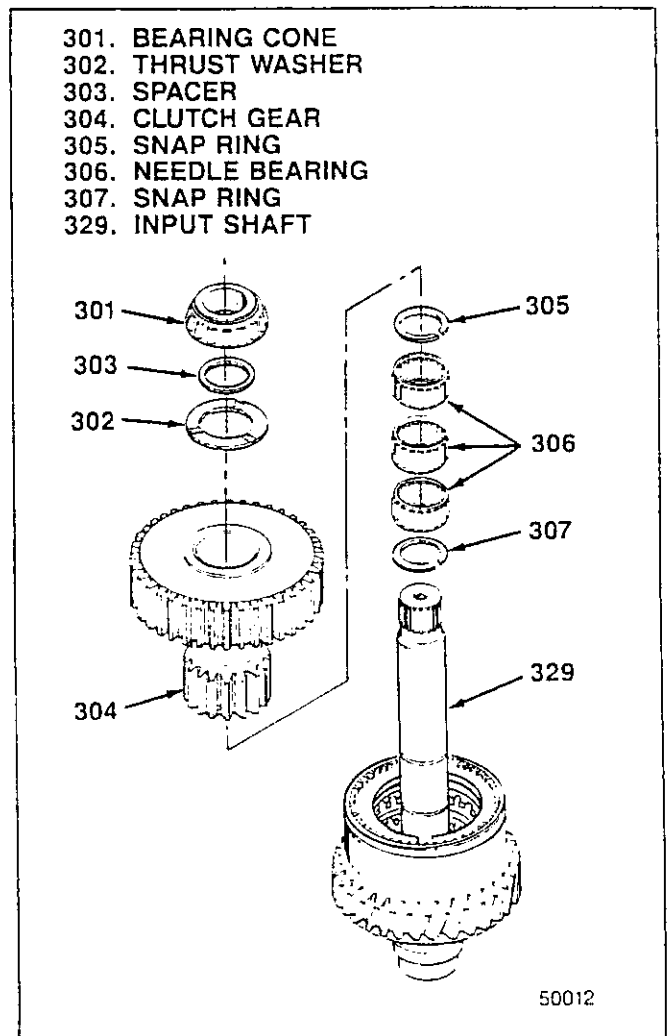

Figure 5-8. Input Clutch Gear and Bearings
**5-11. ASSEMBLY OF CLUTCH GEAR AND BEARINGS.** With shaft assembly in holding fixture as described in paragraph 5-9, proceed as follows (see figure 5-8):
1. Install snap ring (307), three needle bearings (306) and snap ring (305) on input shaft (329).
2. Align splines on clutch discs previously installed and install clutch gear (304). Make sure clutch gear is fully installed, engaging all clutch discs. Outside end of gear should be flush to below snap ring (305) in input shaft (329).
3. Install spacer (303) and thrust washer (302).
4. Position shaft assembly on holding fixture in arbor press. Using bearing drift T-5003, press bearing cone (301) on shaft to seat on spacer (303) against snap ring (305).